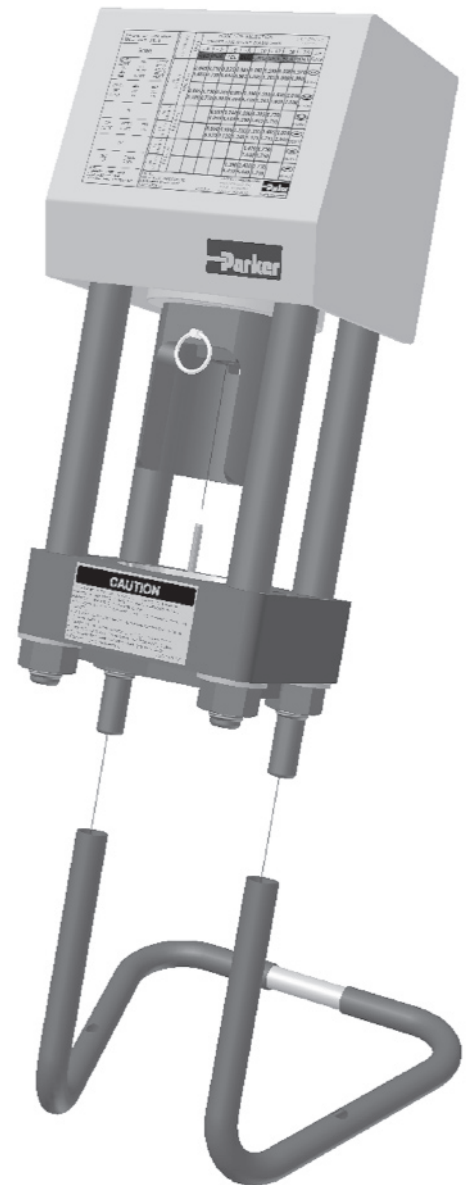

Figure 2
2. Assemble crimper base unit to stand as shown in Figure 2.